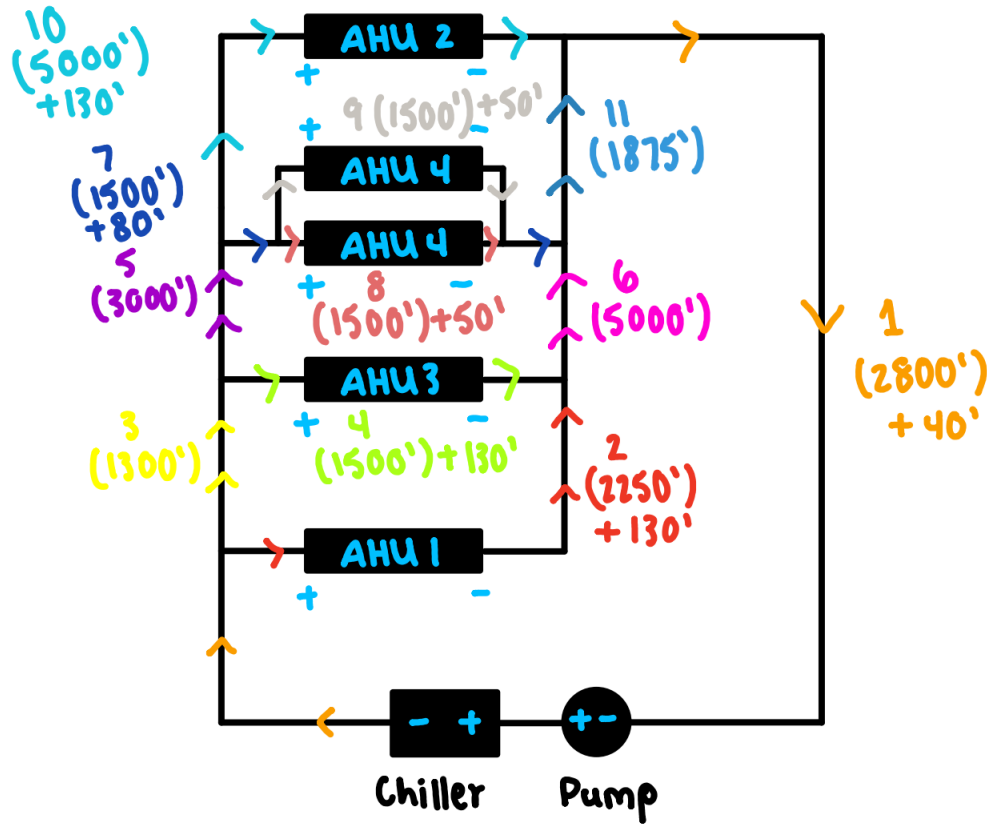

Figure 3: Z-Network Schematic of Lengths
- Use a “Z” network (shown in Figure 3).
Figure 3 shows the lengths associated with each line. The original length is shown in parentheses, and the added lengths are shown if there is a change in elevation or if the line is in a mechanical room (additional 50 feet). Here is a summary of the lengths for each of the 11 lines: